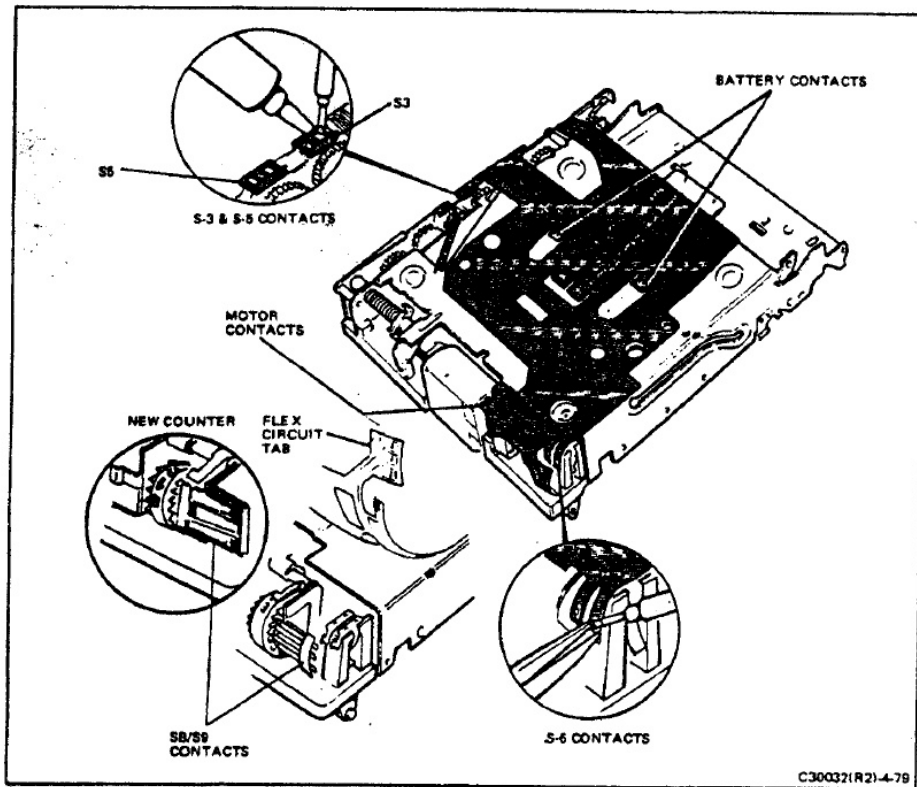

FIGURE 4-79 SOLDER POINT IDENTIFICATION
- Using the specified soldering iron and solder-removing device, unsolder the three S8/S9 counter switch contacts from the flex circuit (Figure 4-79).
NOTE: Newer counters have a different pattern of contacts as shown by the inset in Figure 4-79.